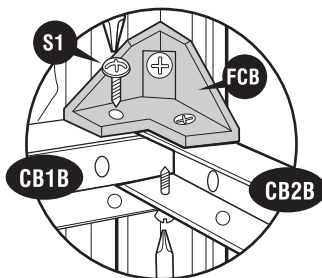

Fig.1: Use **(S1)** screws. Fix **(CB1B)** to **(FCB)** and **(CB2B)**.
23. Attach the **center band (CB1B)** to **door column, corner column** and **center band (CB2B)**. See figures 1 and 2.